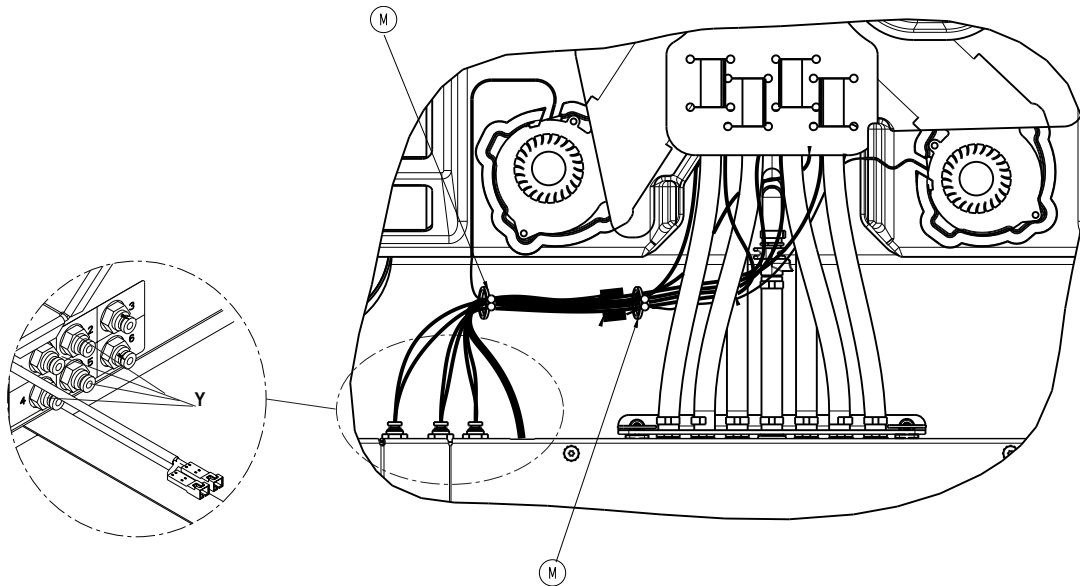

Figure 6 – Pod sensor hoses and purse lock wire tie
8. Disconnect the four pod sensor hoses (Y) (one blue, two yellow, four green, and five orange) from the foot box. Push into the coupling and pull out each of the hoses (Figure 6).
9. Remove the sensor hoses from the purse lock wire ties (M) (Figure 6).